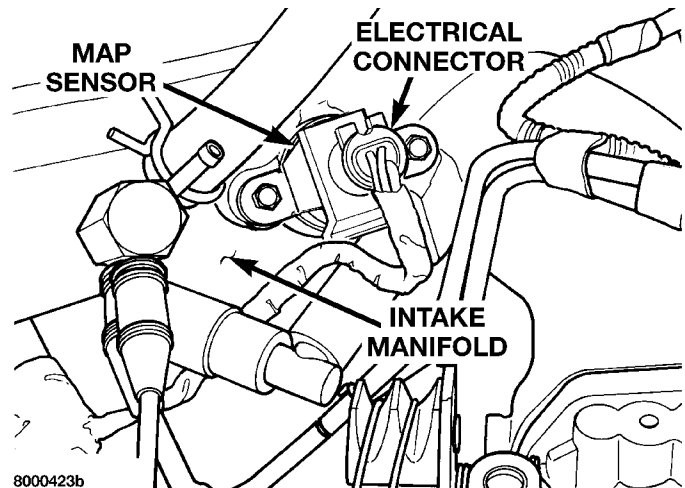

Fig. 12 Map Absolute Pressure Sensor
- (1) Disconnect electrical connector from MAP sensor (Fig. 12).
- (2) Remove two screws holding sensor to the intake manifold.